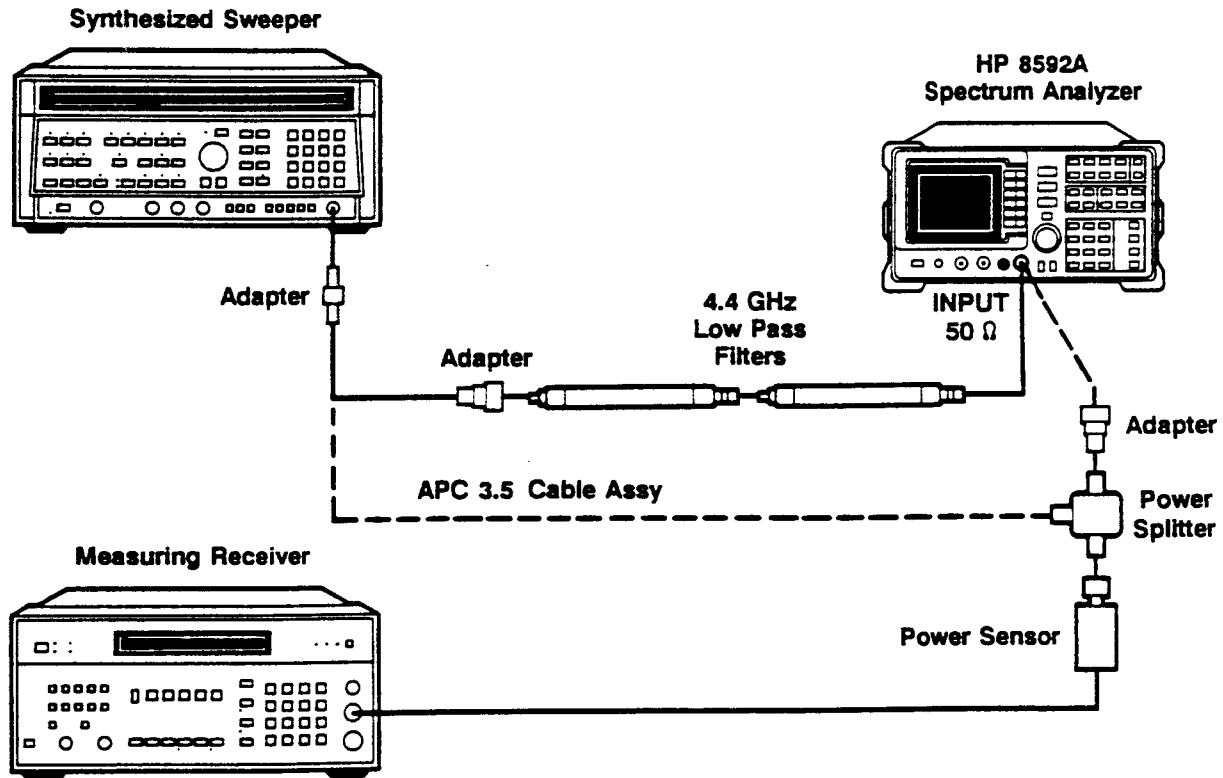

Figure 1-4. Second-Harmonic Distortion Test Setup (>2.9 GHz)
- 11. Connect equipment as shown in Figure 1-4, with the output of the HP 8340A/B connected to the input of the power splitter, and the power splitter outputs connected to the HP 8592A and the power sensor.
21. Connect the equipment as shown in Figure 1-4 with the filters in place.